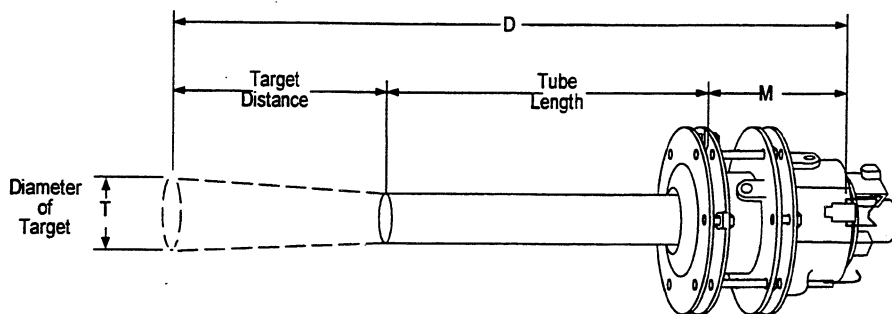

Figure 2
**Focus** - All 18890 Series Rayotube detectors are prefocused to one of six focal lengths, as specified in the Model Selection Guide. When ordering a direct-sighting assembly, focus is determined by the distance "D", from the Rayotube window to the target. When ordering a target-tube assembly, focus is determined by the tube length plus a length "M" (see Figure 2) which varies with the mounting assembly.